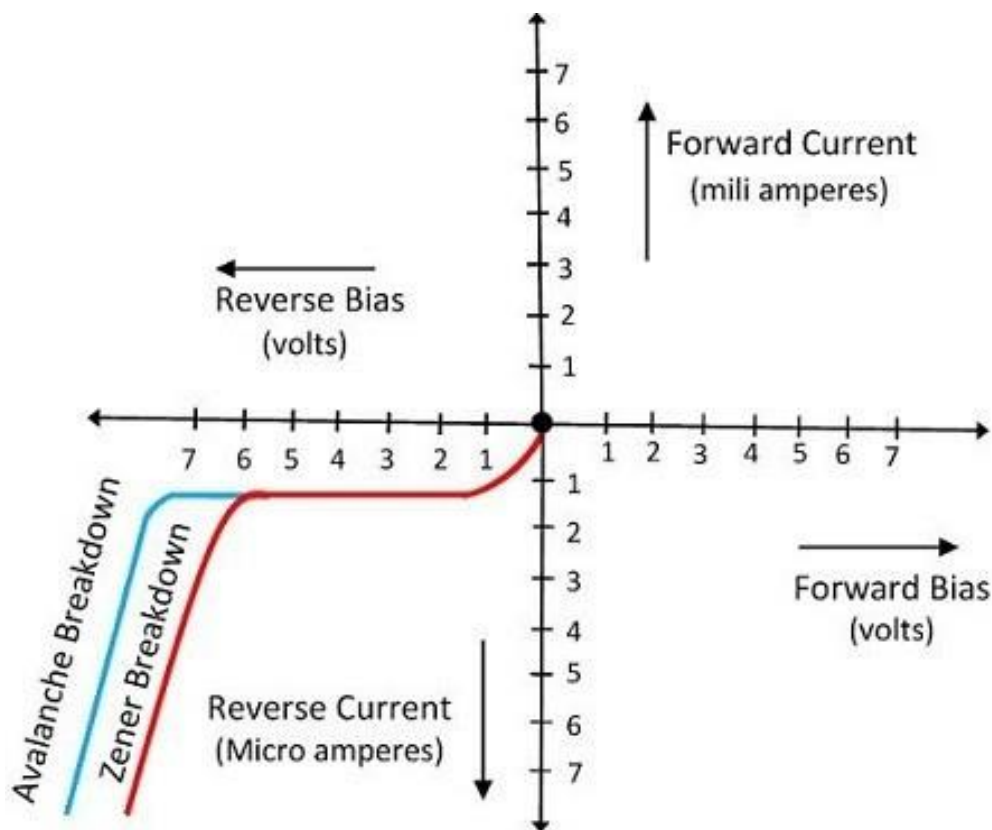

Figure 1. Breakdown Mechanisms in PN Junction diodes
- Figure 1 depicts the Current Voltage Characteristics of the two different breakdown mechanisms in PN Junction Diodes